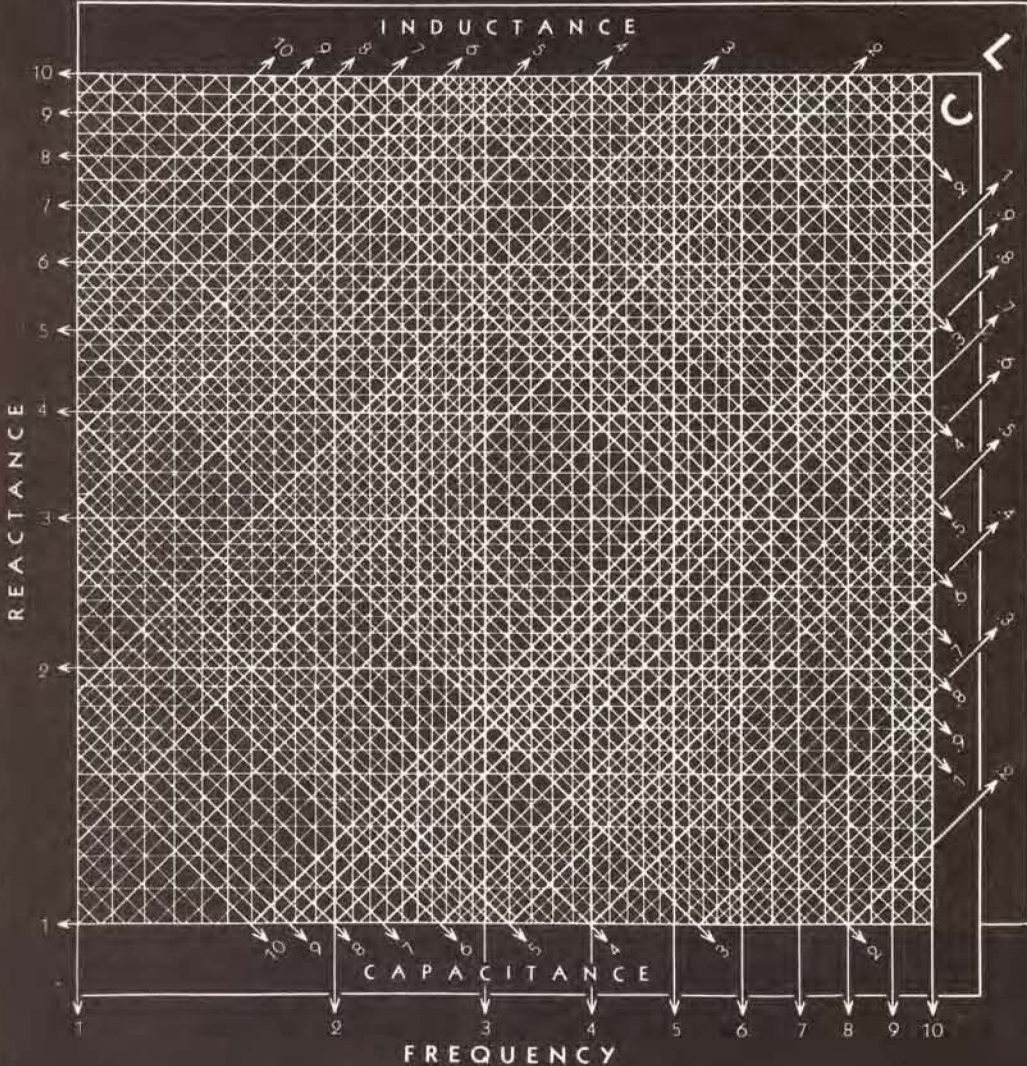

FIG. 2
Always obtain approximate value from Figure 1 before using Figure 2
**USE OF FIGURE 2**
Figure 2 is used to obtain additional precision of reading but does not place the decimal point which must be located from a preliminary entry on Figure 1. Since the chart necessarily requires two logarithmic decades for inductance and capacitance for every single decade for frequency and reactance, unless the correct decade for L and C is chosen, the calculated values of reactance and frequency will be in error by a factor of 3.16.